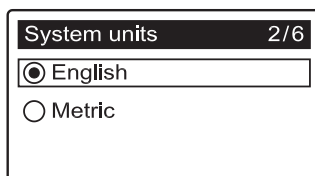

FIG. 9
3. **SYSTEM UNITS** If the desired system already has a black dot next to it (See Figure 9), go to Step 4. Otherwise, press the DOWN (▼) or UP (▲) buttons to scroll to the desired system, then press the SELECT (○) button to choose it.